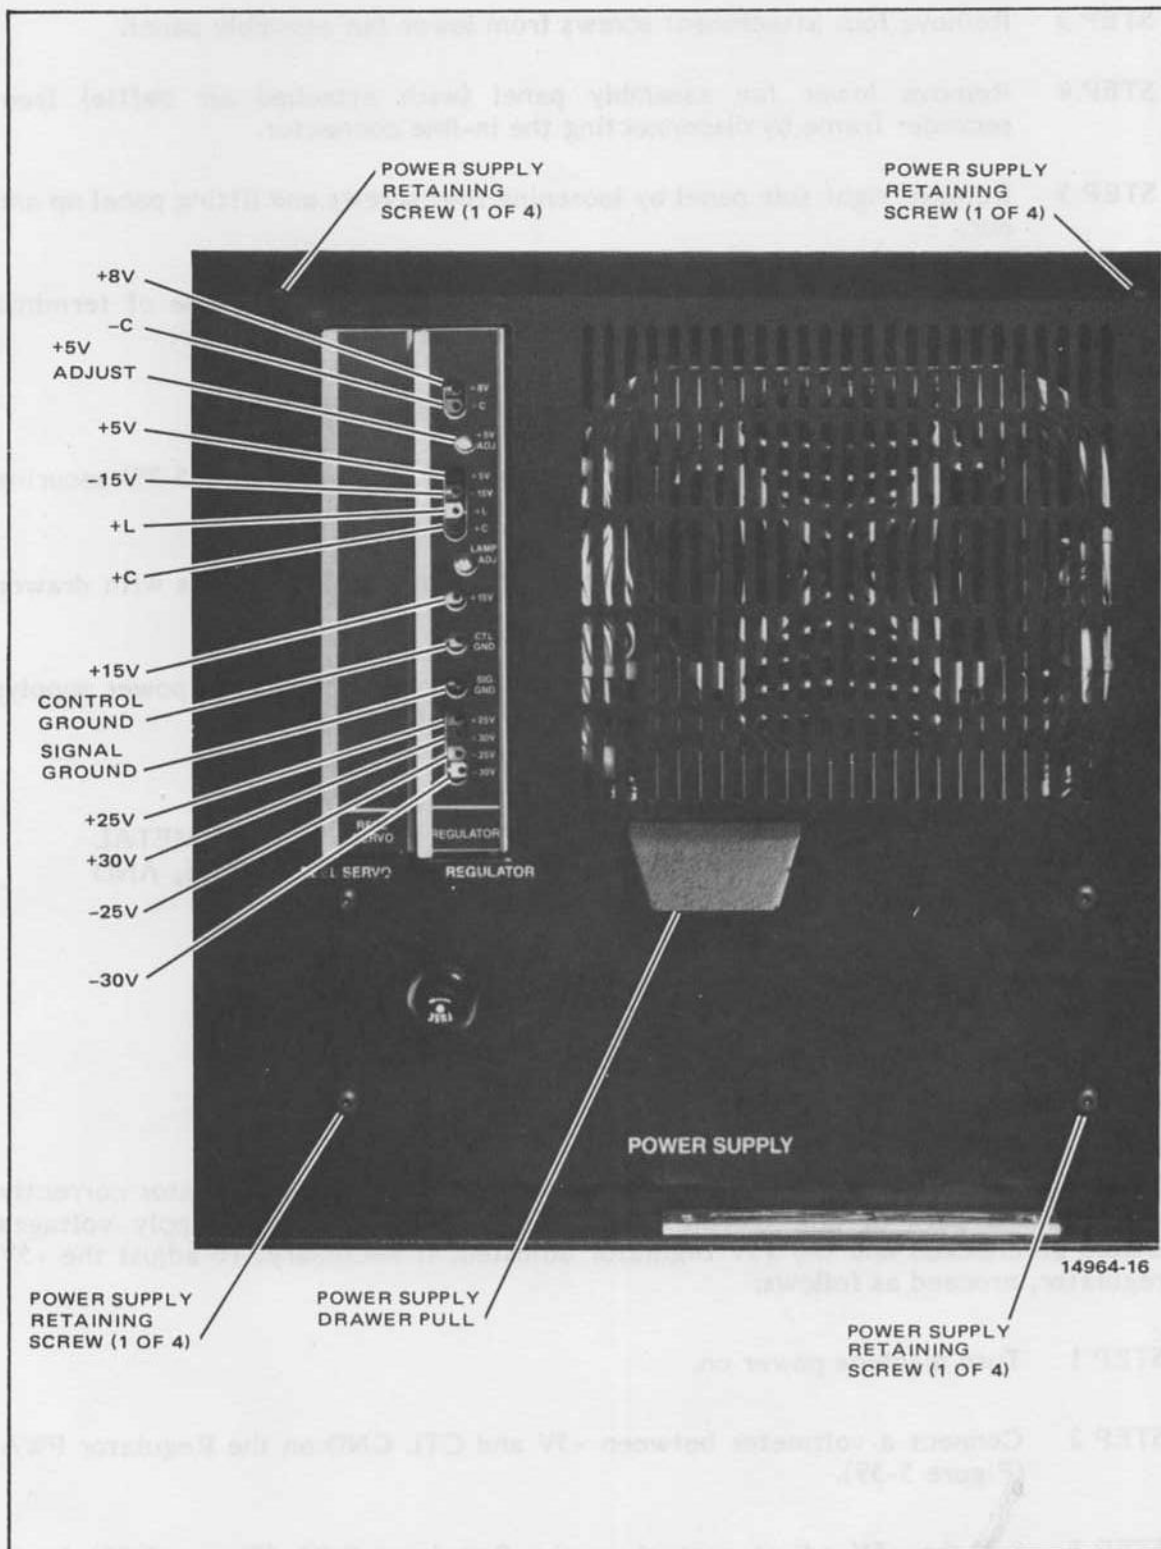

Figure 5-39. Power Supply Regulator PWA and Power Supply
from the front of the machine. Figure 5-39 shows the Regulator PWA, located on the power supply. The various power supply voltages can be checked at the Regulator PWA handle test points. When checking voltages in the control system, the CTL GND terminal should be used as ground (these voltages are terminated above the CTL GND connector on the Regulator PWA handle). When checking voltages in the audio signal system, the SIG GND terminal should be used (these voltages are terminated below the SIG GND connector on the Regulator PWA handle).
- STEP 8 Remove, from front of recorder, the four screws (Figure 5-39) securing power supply panel.
- STEP 9 Pull power supply fully out of recorder on supporting rails with drawer pull provided (Figure 5-39).
- STEP 2 Connect a voltmeter between +5V and CTL GND on the Regulator PWA (Figure 5-39).